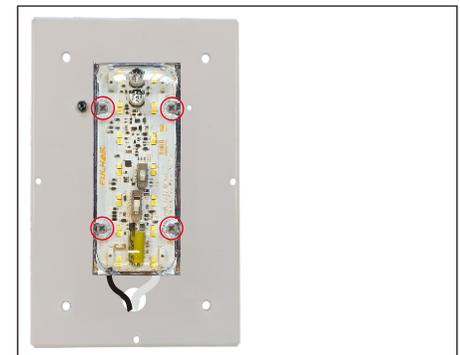

Figure 4
4. Secure the LED Engine to the luminaire mounting plate using the provided 6-20 x5/8" Self Drilling Screws (B). See Figure 4.